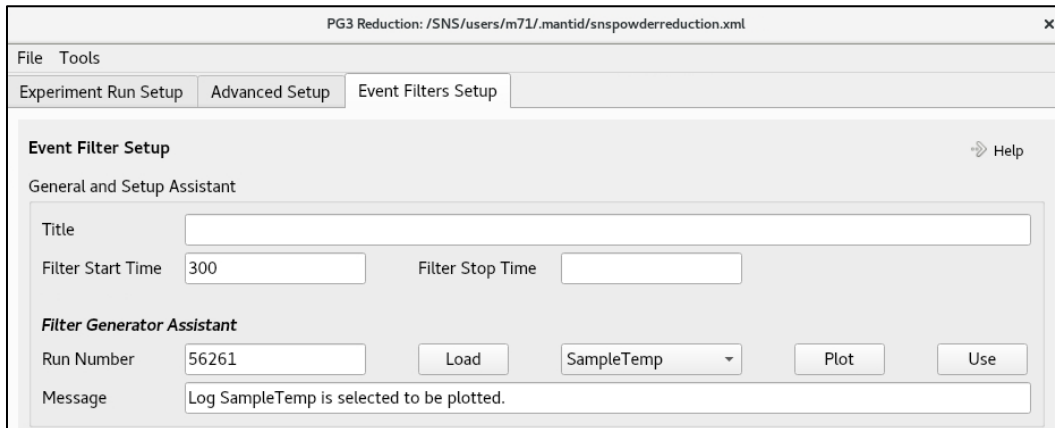

Figure 15. Top section of the Event Filters Setup tab of the PG3 Reduction input dialog box.
- 4.1.2. Switch to the Event Filters Setup tab (Figure 15) to input parameters for data-slicing.